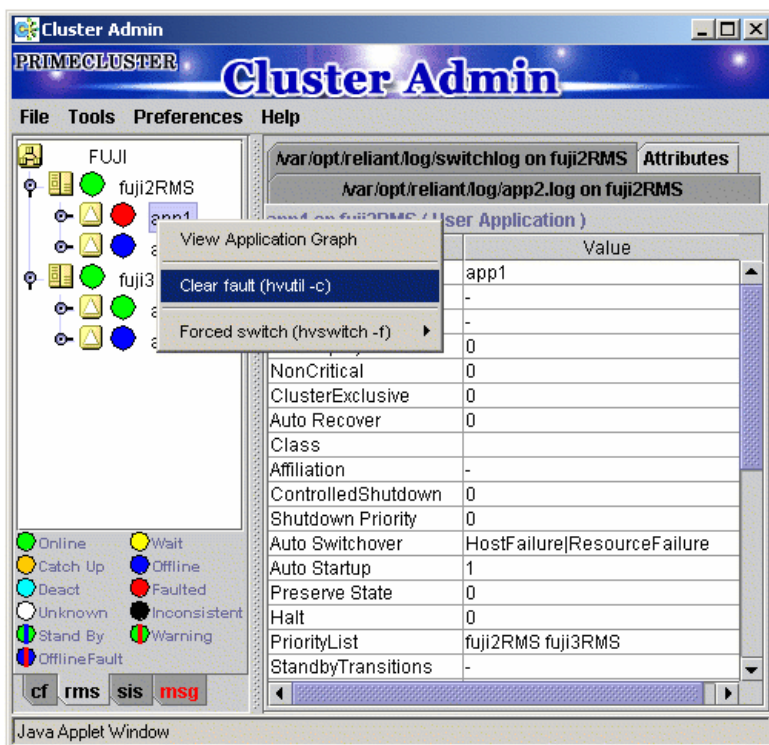

Figure 92: Clearing an application fault
- ▶ Right-click on the application object and select the *Clear Fault* pop-up menu option (see Figure 92).